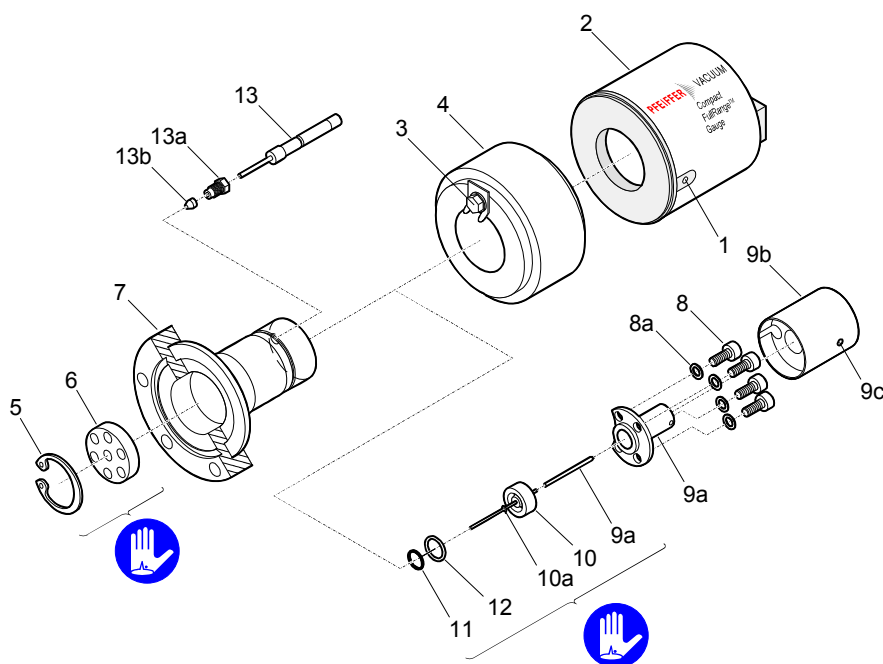

Figure 2:
- ➋ Unfasten the hexagon socket set screw (1) on the side of the electronics unit (2) (→ Figure 2).
- 1 Remove the old ignition aid (10a), for example with tweezers (→ Figure 2).
- 1 Slide the screw fitting (13a) and the copper seal (13b) on the tube of the Pirani element (13) (→ Figure 2).
- 2 Insert this combination (13, 13a, 13b) into the corresponding conic bore hole (7) of the measuring chamber.
- 4 Insert a new metal seal (11) incl. the centering ring (12) centered into the measuring chamber (7).
- 5 Carefully insert the anode (10) with the ignition aid (10a) and extension piece (9a) slid onto it into the measuring chamber.
- 6 Carefully place the pressure piece (9) on the measuring chamber.
- 7 Insert the four hexagon socket screws (8) incl. lock washers (8a) and tighten them uniformly until the mechanical stop is reached.
- 8 Carefully slide the insulator (9b) onto the pressure piece (9) and lock it with the hexagon socket set screw (9c).
- 11 Slide the polarity insert (6) into the measuring chamber until the mechanical stop is reached.